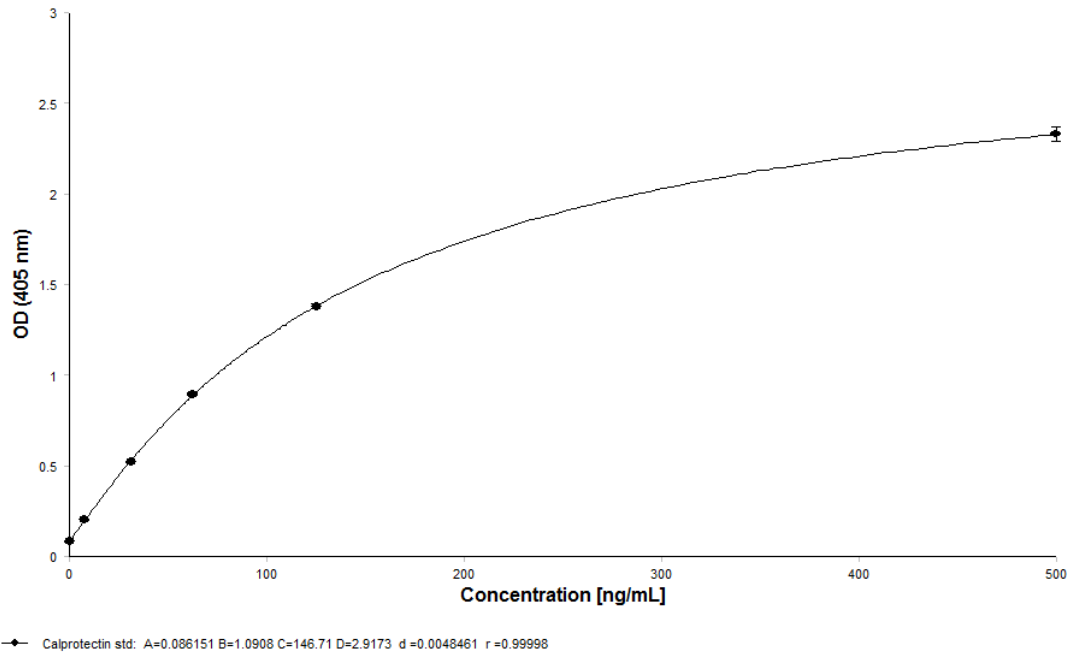

Figure 1: A representative standard curve using 4-parameter curve fit.
- The OD value of Standard F (500 ng/mL) should be  $\geq$  1.6 and the OD value of Standard A (0 ng/mL) should be  $\leq$  0.25. A representative standard curve is shown in figure 1.
2. Plot the value of each standard concentration (ng/mL) on the x axis against its mean OD value on the y axis to obtain a standard curve. **A 4-parameter curve fit function is recommended** (see figure 1 below). If a logarithmic x axis is required, a value of 0.001 ng/mL must be used for standard A (0 ng/mL).